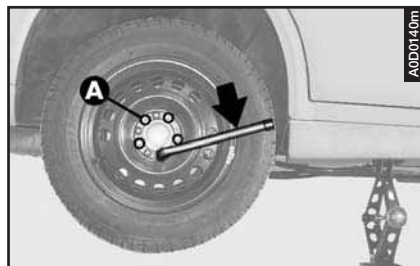

fig. 17
– Tighten the five fastening bolts (A-fig. 17).